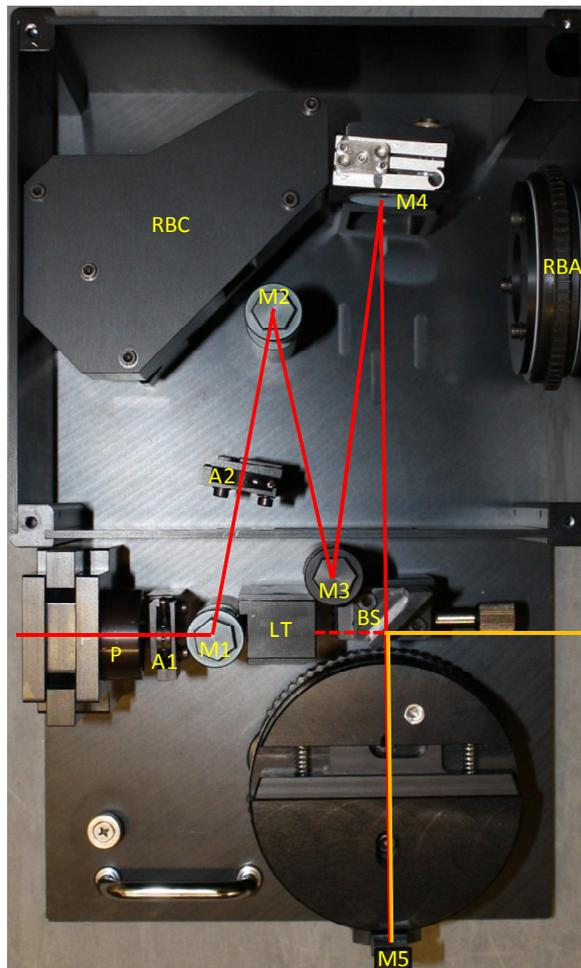

Fig. 1 Top view of the directional SSIV accessory, showing the optical path of the instrument sample beam in the I-mode (without sample)
The optical path of the spectrophotometer's sample beam through the accessory is shown in Fig. 1 below (the upper lid of the accessory is removed). After passing the polariser (P), the beam interacts with aperture A1, mirror M1, aperture A2, mirrors M2, M3 and M4, beamsplitter BS (in transmission) and mirror M5. Finally, the beam reflected by mirror M5 is directed towards the detector unit by the beamsplitter BS (in reflection). The reference beam passes the Reference Beam Compensator (RBC) and Reference Beam Attenuator (RBA). The beam size at the sample position can be changed by using different slit and Common Beam Mask values and by changing the aperture (iris diaphragm) directly after the polariser (A1). Aperture A2 limits the beam size at the sample compartment exit port and is therefore locked.